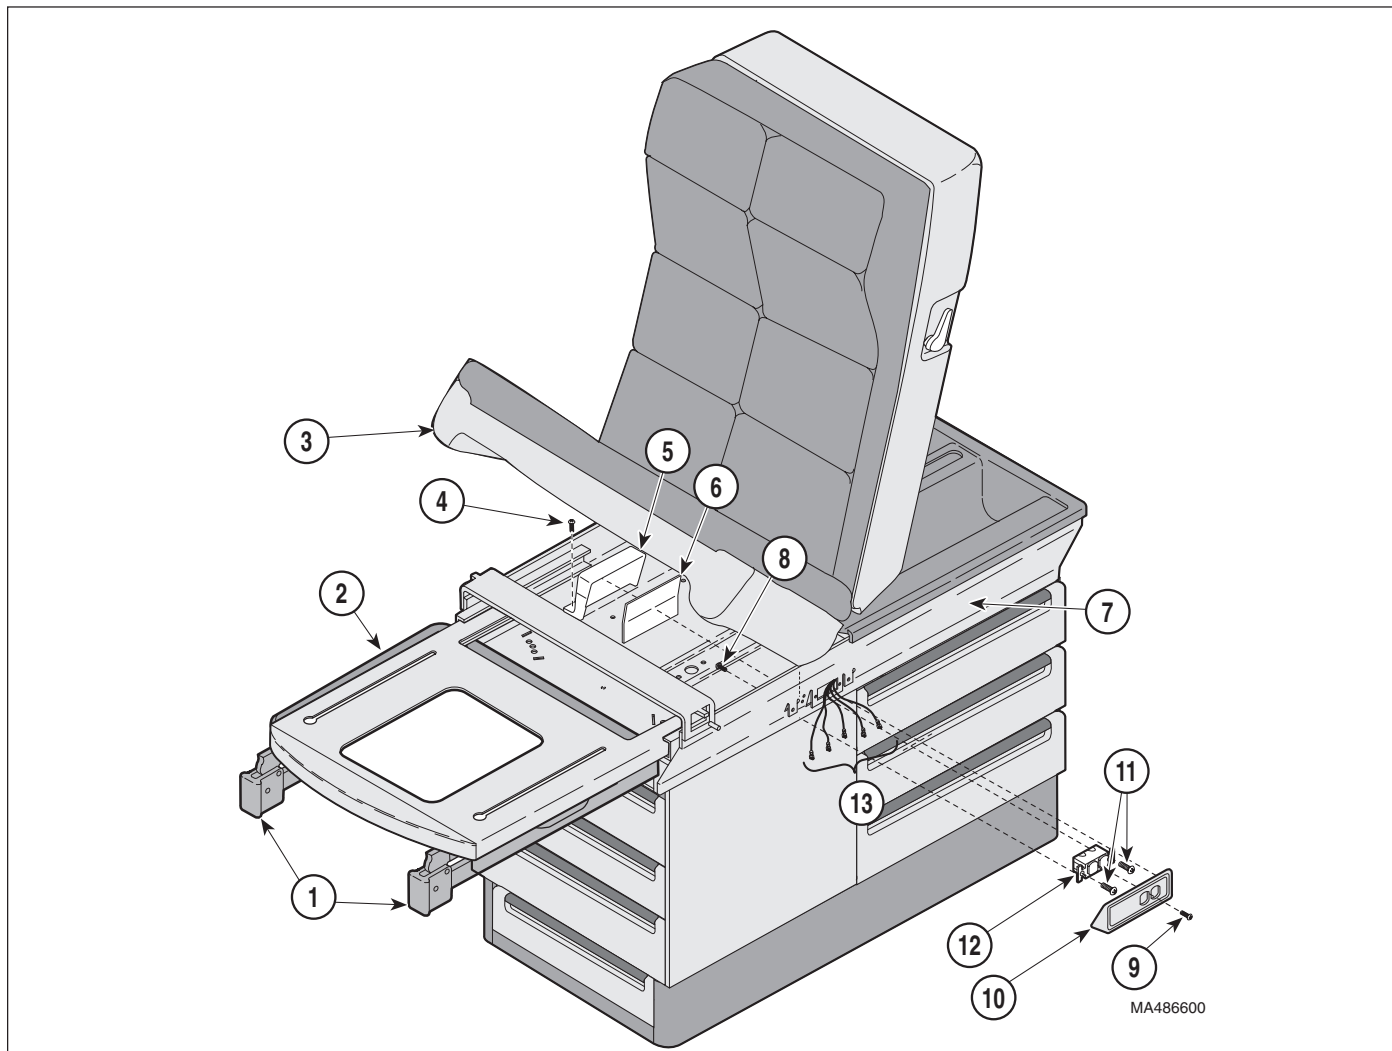

Figure 4-11. Electrical Receptacle Removal / Installation
- (1) Unplug table power cord from wall outlet.
- (2) Pull stirrups (1, Figure 4-11) and foot rest section (2) out to full extension.
- (3) Raise seat section (3) up.
- (4) Remove two screws (4), receptacle box (5) and fishpaper insulator (6) from inside of upper wrap (7).
- (5) Remove screw (8) from inside of upper wrap (7).
- (6) Remove screw (9) and receptacle cover (10) from upper wrap (7).
- (7) Remove two screws (11) and partially separate receptacle (12) from upper wrap (7).